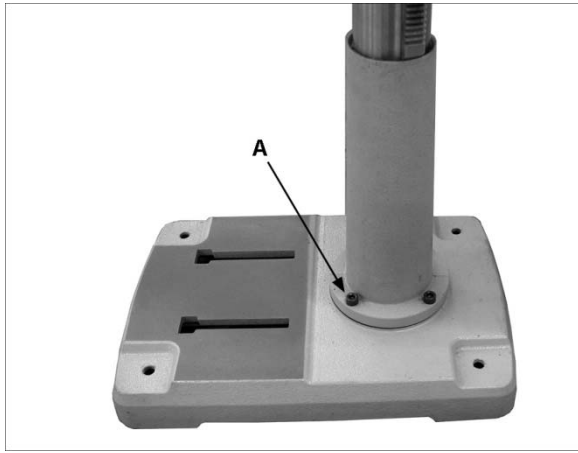

Figure 3
3. Attach column assembly to base with four M10x40 socket head cap screws (A, Figure 3). Tighten firmly.
7. The lower end of the rack should rest in the lip of the holder, as shown in Figure 3.